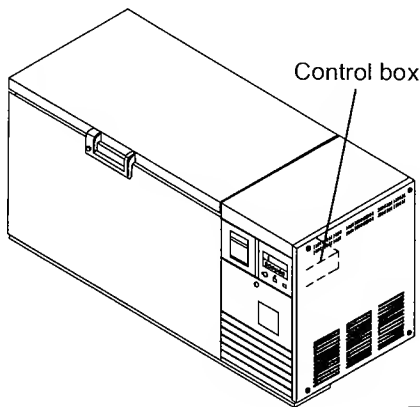

Fig. 1
This unit is provided a nickel-cadmium battery for the power failure alarm. The battery is located in the control box behind the control panel.(Fig. 1)
1. Open the door and let down the lever of the penholder; the pen point is apart from the chart. (Fig. 1)